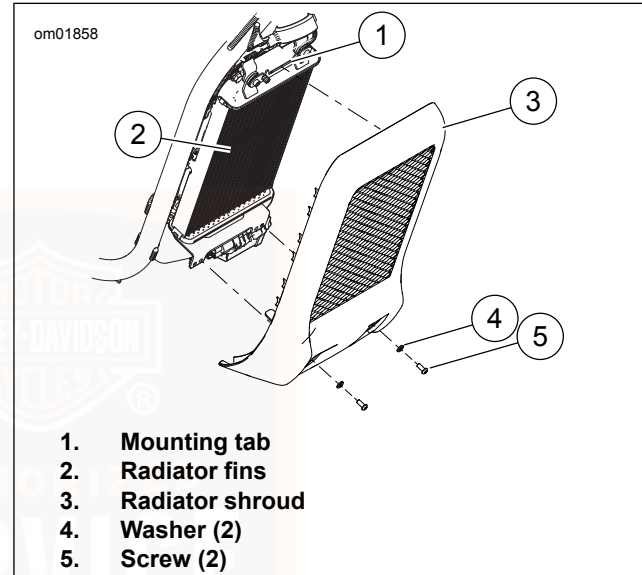

Figure 39. Radiator Shroud
1. See Figure 39. Remove screws (5) and washers (4).
2. Remove radiator shroud (3) from mounting tab (1).